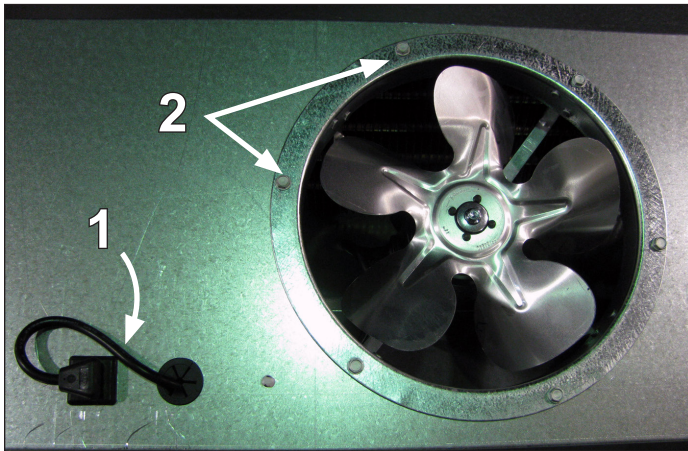

Fig. 23 Fan basket
1. Unplug the fan motor (Fig. 23), easily accessible outside the plenum. Be certain to push the power cord back through the plenum opening to avoid damage to the power cord.